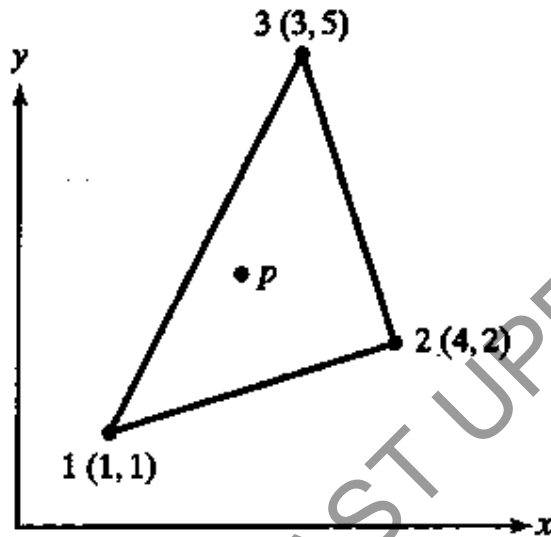

Figure 2.
- 5 a) For point 'P' located inside the triangle shown in Figure 2. The shape functions N_1 and N_2 are 0.15 and 0.25 respectively. Determine the x- and y-coordinates of point P. [8]